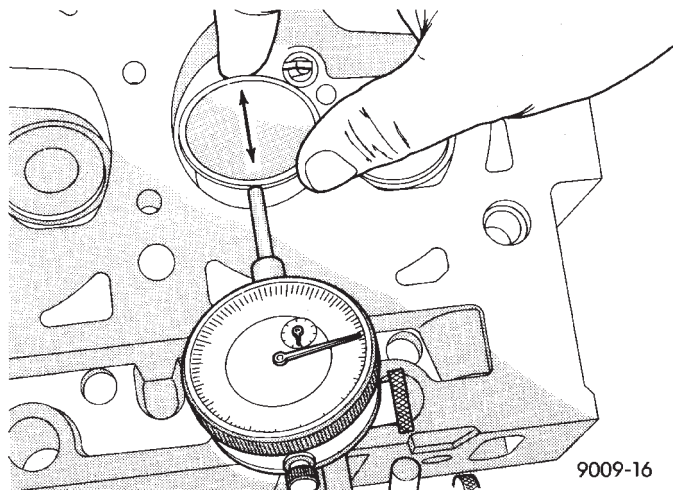

Fig. 74 Measuring Valve Guide Wear
(3) Attach dial indicator Tool C-3339 to cylinder head and set it at right angle of valve stem being measured (Fig. 74).